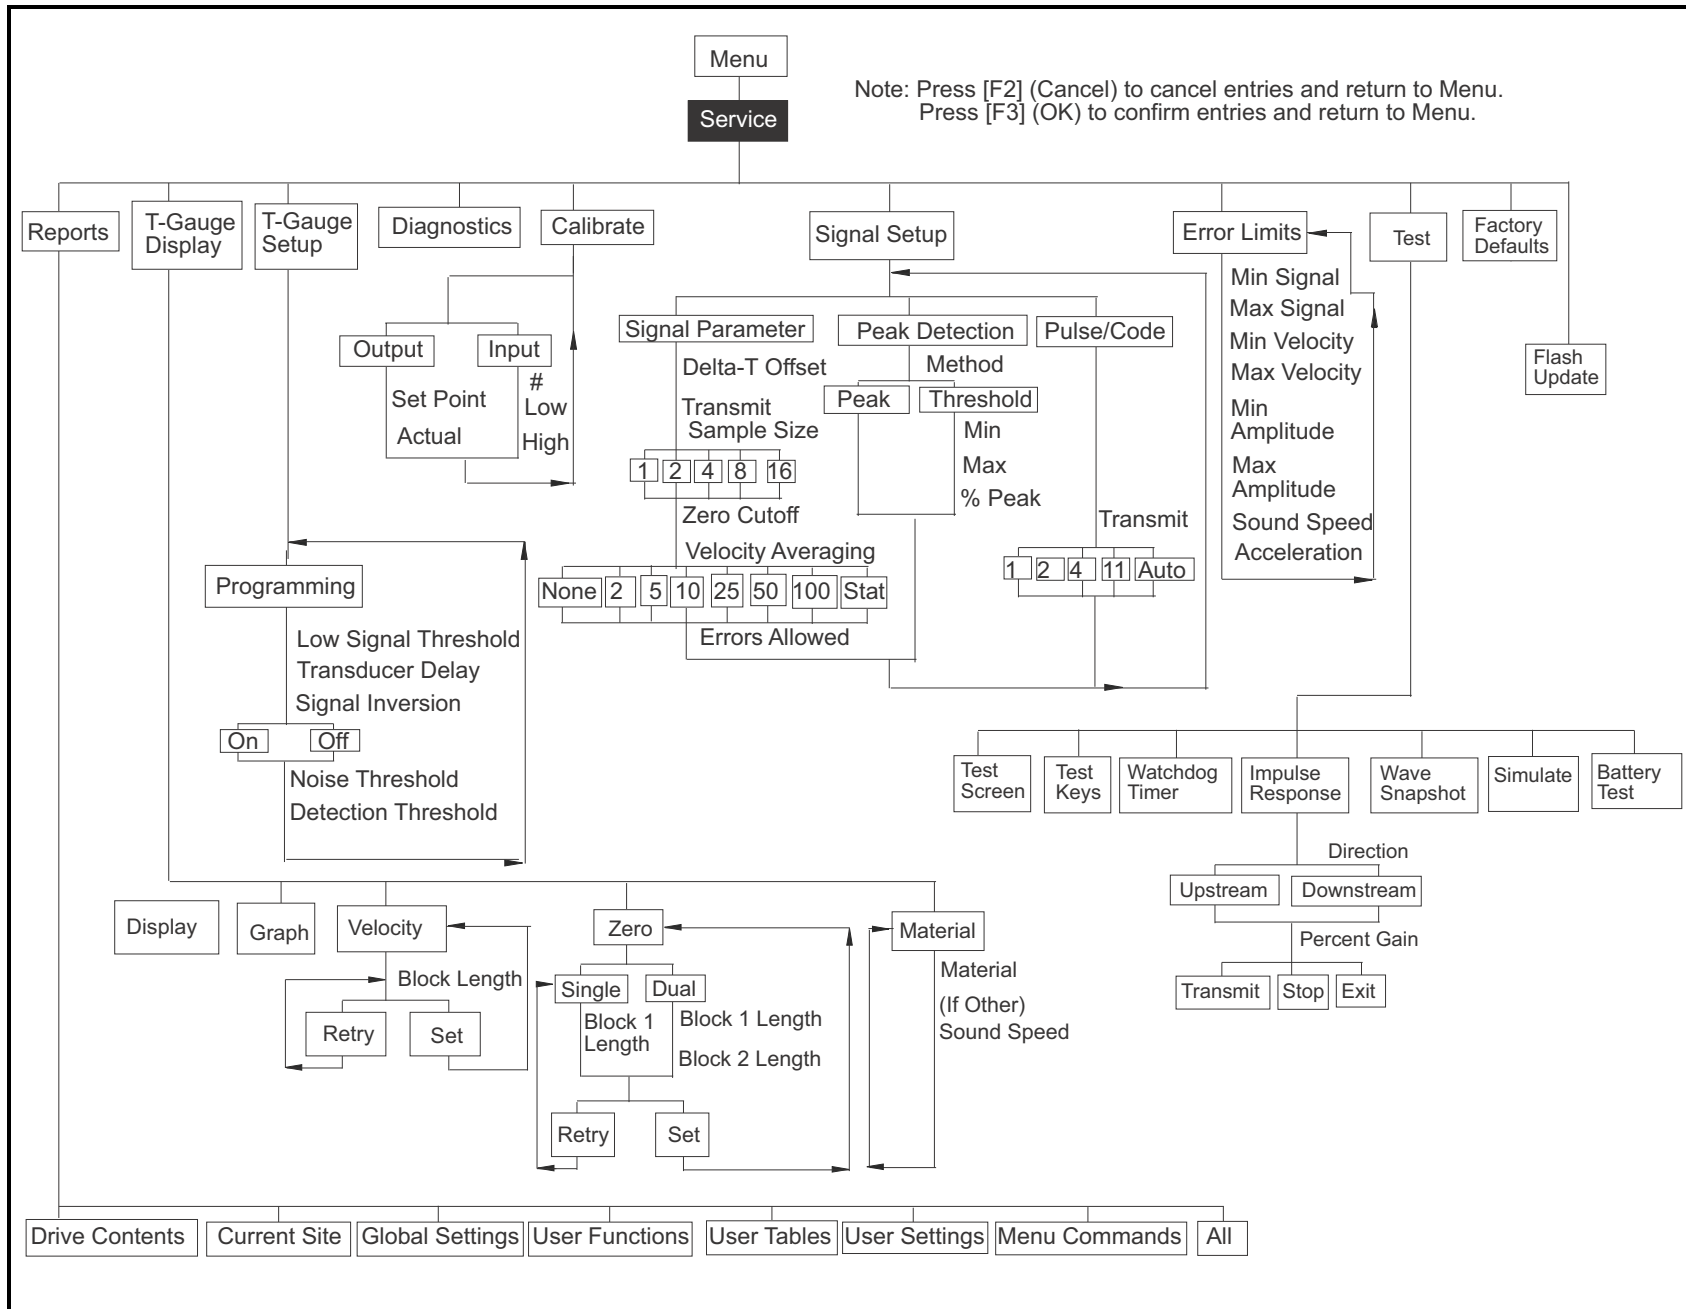

Figure 142: Service Menu
- **Service Menu** - Figure 142 on page 225